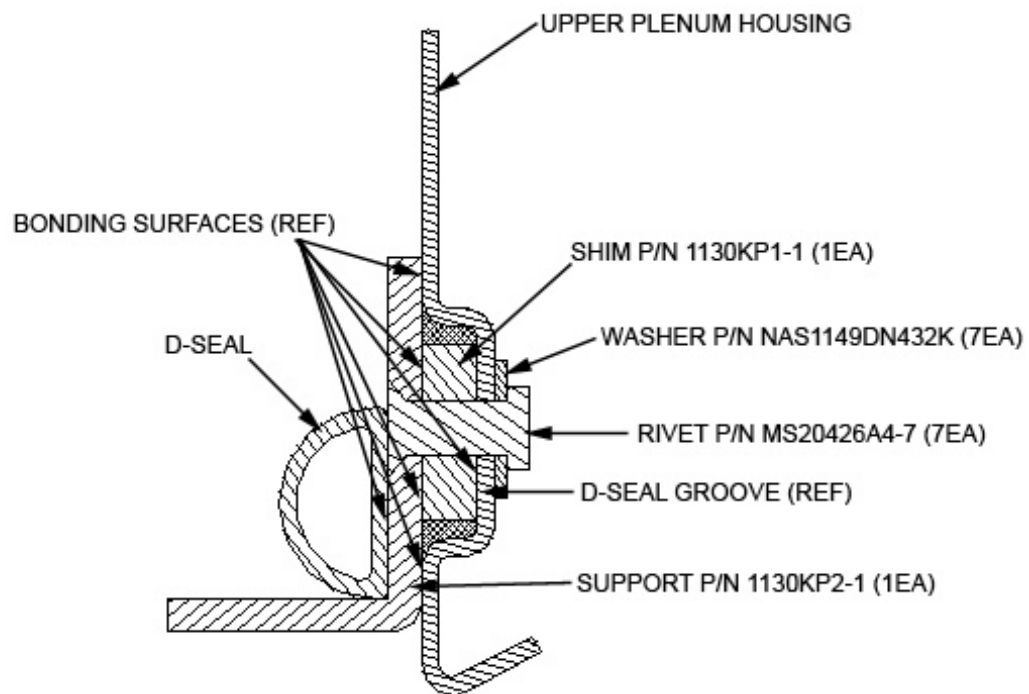

Figure 3 – Assembly Reference
- (9) Bond shim P/N 1130KP1-1, centered to the aft D-seal groove, using Hysol adhesive P/N EA 934NA or 3M adhesive P/N DP420. Refer to Figure 3.
- (10) Allow adhesive to cure to adhesive manufacturer's requirements.
- (11) Locate holes from shim P/N 1130KP1-1 and transfer drill (DIA. 0.128) thru upper housing (7 places).
- (12) Clean bonding area surfaces of SHIM P/N 1130KP1-1, support P/N 1130KP2-1 and applicable area of upper housing, with Acetone (Federal Specification number O-A-51G) or Methyl Ethyl Ketone (MEK) (Federal Specification TTM-261B). Refer to Figure 3.
- (13) Scuff bonding area surfaces of shim P/N 1130KP1-1, support P/N 1130KP2-1 and applicable area of upper housing, with 200 grit aluminum oxide sand paper. Use vacuum or compressed air to remove sanding debris from surface. Refer to Figure 3.
Refer to Figure 3.
- (18) Clean bonding area surfaces of support P/N 1130KP2-1 and D-seal with Acetone (Federal Specification number O-A-51G) or Methyl Ethyl Ketone (MEK) (Federal Specification TT-M-261B). Refer to Figure 3.
- (19) Scuff bonding area surfaces of support P/N 1130KP2-1, with 200 grit aluminum oxide sand paper. Use vacuum or compressed air to remove sanding debris from surface. Refer to Figure 3.
- (20) Apply Pro-Seal P/N PR1440-B2 (AMS-S-8802) or High Temperature RTV General Electric product adhesive P/N 103, 108 (MIL-A-46106) or Dow Corning P/N 832 Multi-Surface Adhesive Sealant to prepared support P/N 1130KP2-1 surface and D-seal. Refer to Figure 3 for D-seal location.
- (21) Bond D-seal to support P/N 1130KP2-1 taking care to ensure a positive mating of the D-seal to support P/N 1130KP2-1 is accomplished. Refer to Figure 3 for D-seal location.
- (22) Allow adhesive to cure to adhesive manufacturer's requirements.
- (23) Reinstall the modified upper housing per the applicable Installation Instructions Manual (1130-INST-1).
- (24) Job close-up.